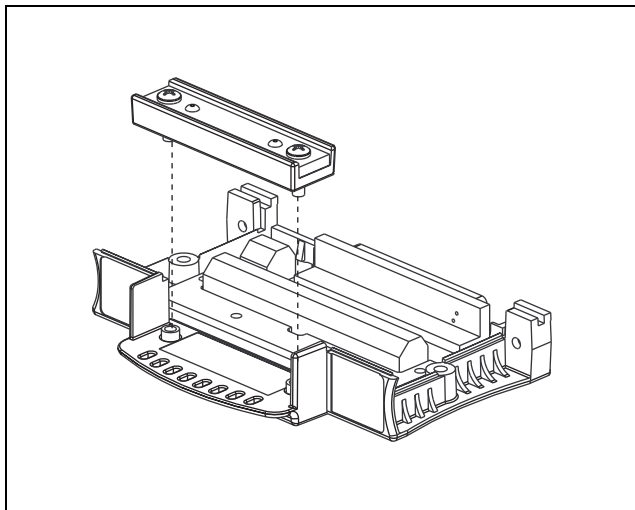

Figure 12. Installing the Strain-Relief Bar
1. Using a number 2 Phillips screwdriver, install the strain-relief bar on the connector block as shown in Figure 12.